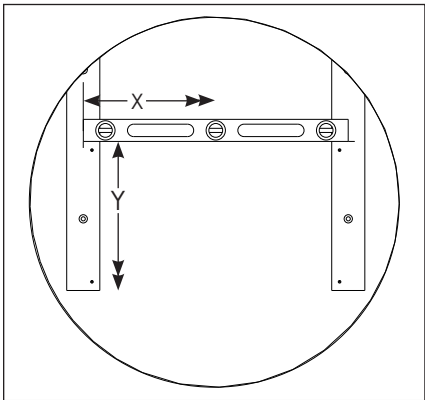

Figure 1: Measure & Mark First Panel Location
- 1. Measure and mark the correct panel location. Refer to **Figure 1**.